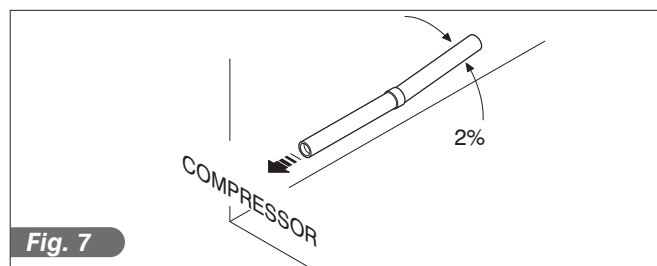

Fig. 7
- 1) Sloping of the ducts (Fig.7).